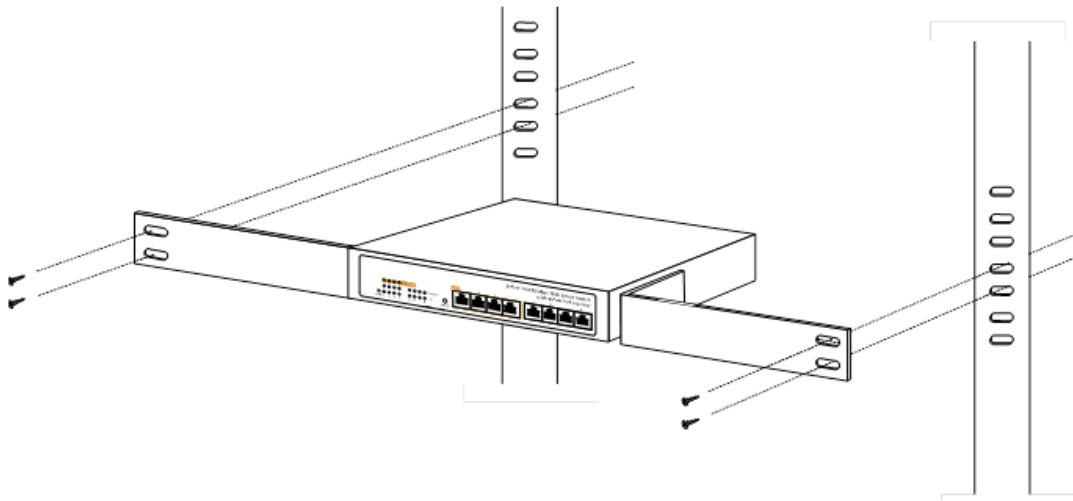

Figure 2-5 Mounting the Switch in a Rack
Step 5: After the brackets are attached to the Switch, use suitable screws to securely attach the brackets to the rack, as shown in Figure 2-5.